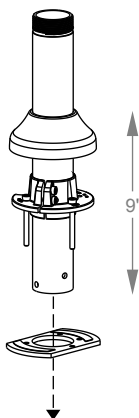

Figure 4.9 Grommet Mount Adjustment
- The Grommet Mount provides 8" of dynamic adjustment and 9" of static adjustment. Static adjustment is achieved by securing the post to the mount anywhere along the bottom of the post (Figure 4.9).